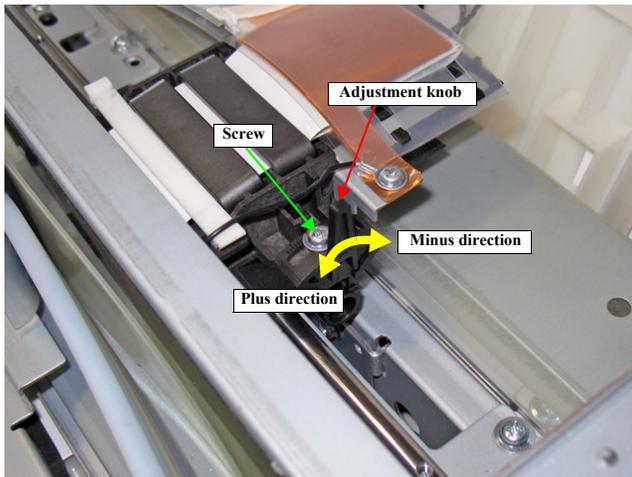

Figure 4-52. Correcting the Head Slant
5. Move the adjustment knob to correct the head slant. See Figure 4-52 for which direction to move the knob.